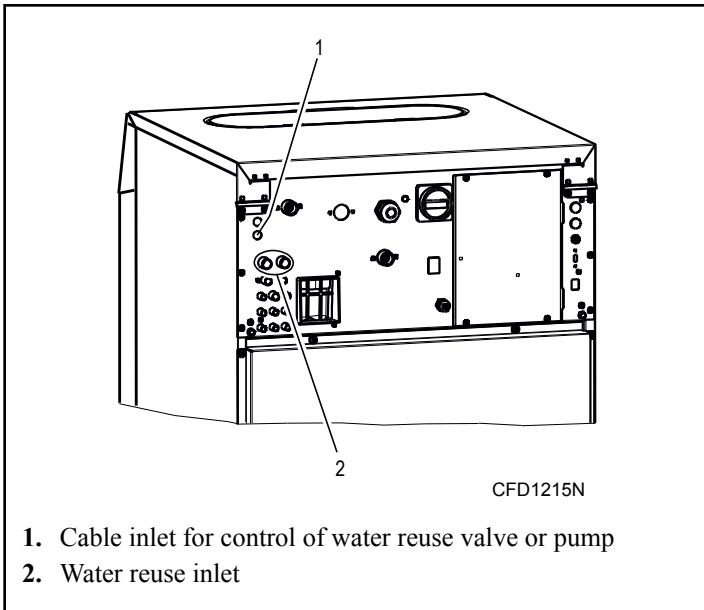

Figure 17
1. Drill out the protective screens of the water reuse inlet using a drill bit of .59 in. [15 mm] diameter. Refer to *Figure 17*.
3. Fit a cable bushing into the opening, and pull the cable through the bushing. Refer to *Figure 17*.